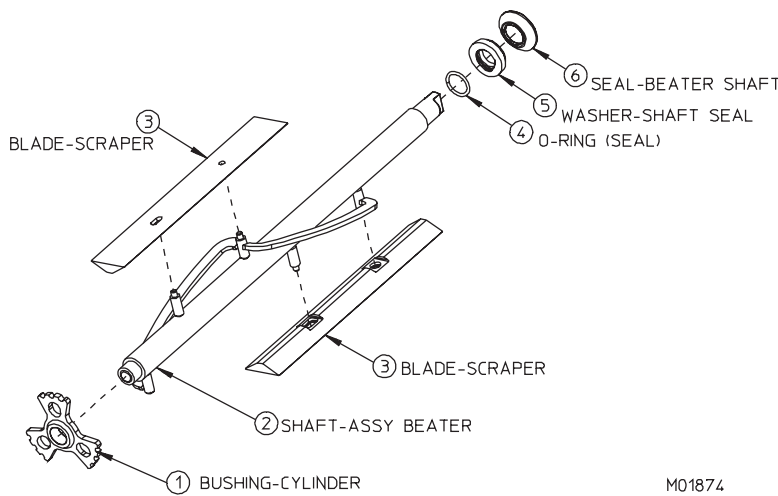

Figure 8-2 Beater Shaft Assembly
2. Install the shaft seal over the rear of the beater shaft, with the bell-shaped portion facing the rear as shown in figure 8-2.